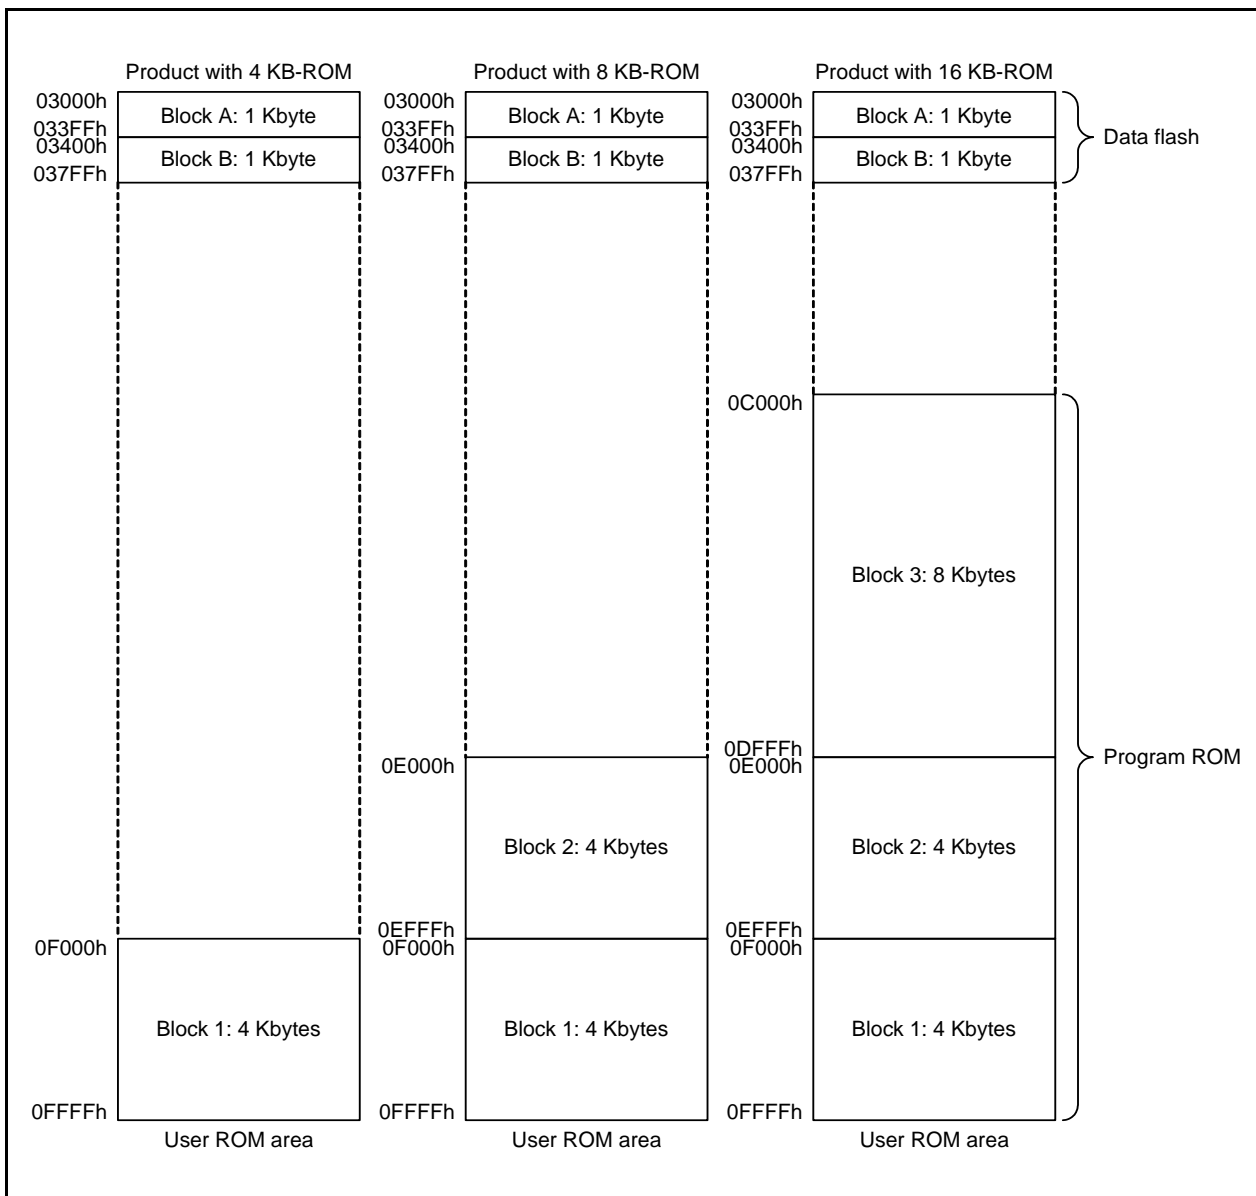

Figure 23.1 Flash Memory Block Diagram
- The number of blocks and their division differ depending on products. For details, see **Figure 23.1 Flash Memory Block Diagram**.
Figure 23.1 shows the Flash Memory Block Diagram.